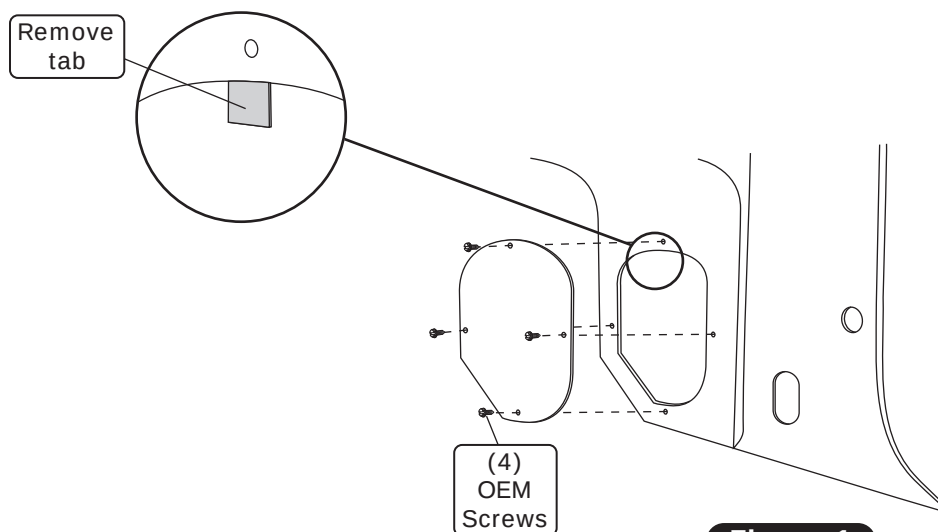

Figure 1
1. Remove tab from the kick panel opening (See Figure 1, below).
4. Secure the kick panel to the kick panel using (4) OEM screws (See Photo 3, below).